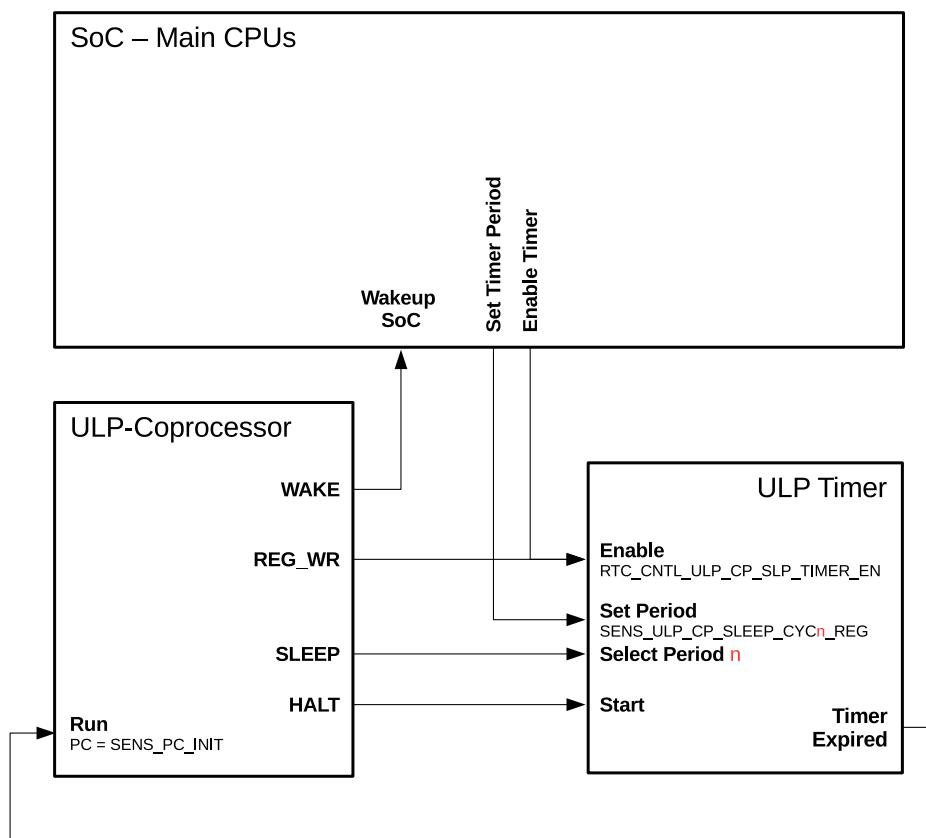

Figure 155: Control of ULP Program Execution
The ULP co-processor puts itself into sleep mode by executing the `HALT` instruction. This also triggers the ULP timer to start counting RTC_SLOW_CLK ticks which, by default, originate from an internal 150 kHz RC oscillator. Once the timer expires, the ULP co-processor is powered up and runs a program with the program counter (PC) which is stored in register `SENS_PC_INIT`. The relationship between the described signals and registers is shown in Figure 155.